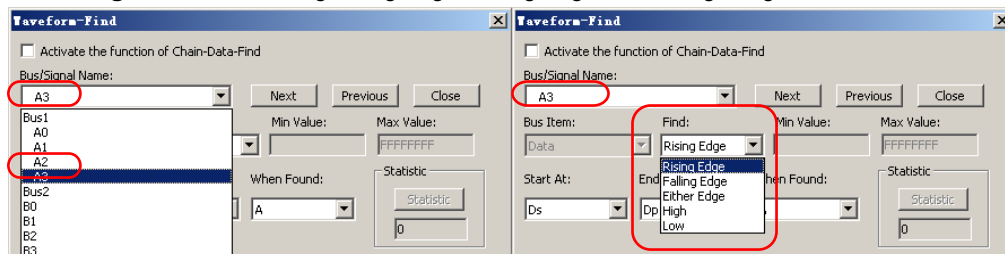

Fig 3-125: Waveform-Find Dialog Box of the Logic Signal
Step3. Choose the character for Find. The list of characters depends on whether it is a Bus, Signal, or the protocol analyzer such as IIC/ UART/ SPI, etc., which is being searched (See Figs 3-125, 3-126, 3-127, 3-128, 3-129, 3-130, 3-131, 3-132 and 3-133).